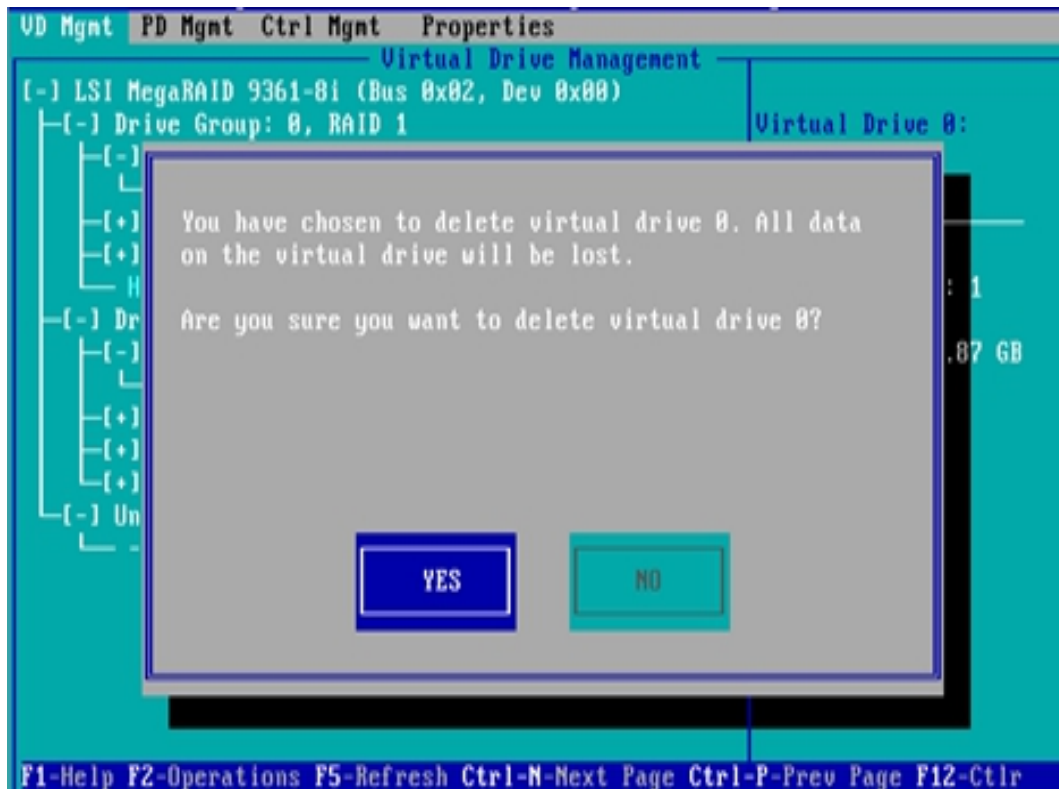

Figure 6-120
c) Enter the interface shown in figure 6-120, select Yes, and press enter to complete the raid deletion operation.
✧ Figure 6-120 confirm deletion